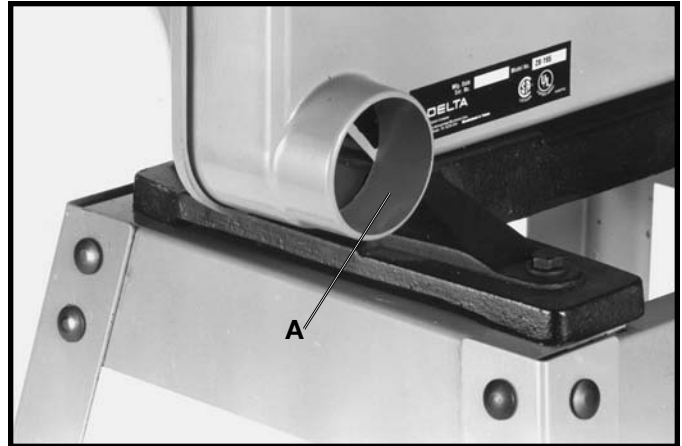

Fig. 40
A dust chute (A) Fig. 40, is provided which enables you to connect your band saw to a standard shop vacuum or dust collector. The opening of the dust chute is 2-1/4" I.D.